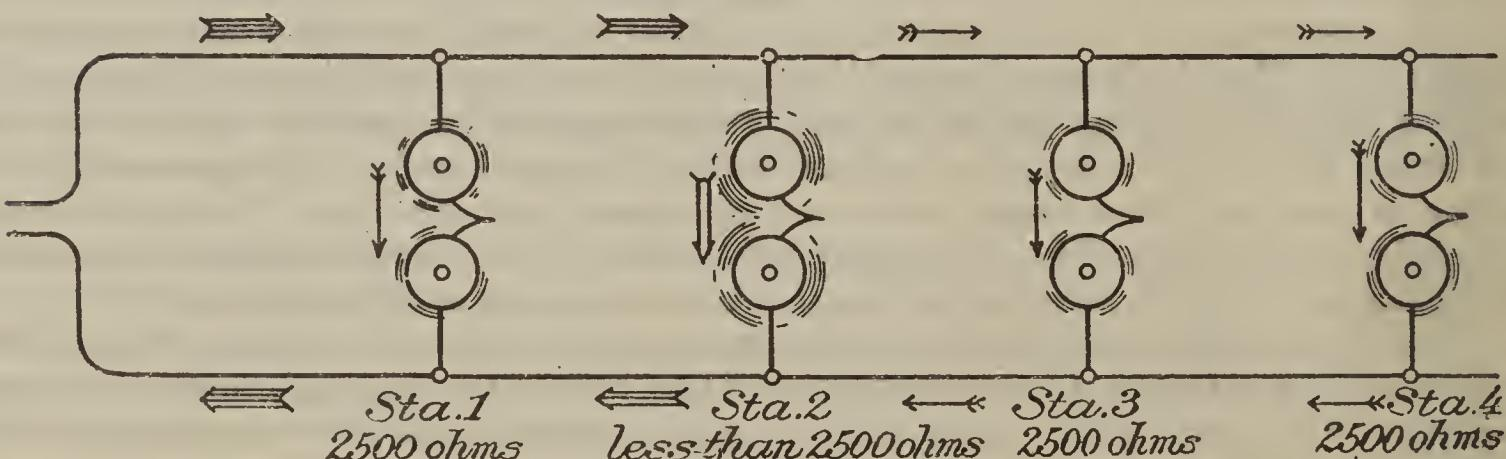

FIG. 5.—Effect when ringers on a line are not all of the same resistance.
It is very important in purchasing telephones to see that all ringers on any one line are of the same resistance. Otherwise the ringer or ringers of lower resistance will take most of the ringing current, and the remaining ringers of higher resistance will operate weakly or not at all. Figure 5, Diagram A, illustrates four telephone sets on the same line. As indicated by the arrows each ringer is receiving its proportionate amount of current because all ringers are of the same
resistance. Figure 5, Diagram B, shows how Station 2, which has less resistance than the other three ringers, receives more than its proportion of the ringing current. This will cause Ringers 1, 3, and 4 to operate either weakly or not at all.
- (f) Ringer of low resistance connected somewhere on telephone line. (See fig. 5.)
- (f) Ringer of low resistance connected somewhere to telephone line. (See fig. 5.)